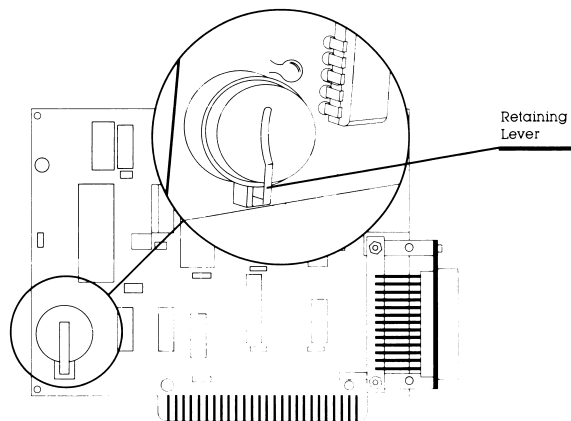

Figure 7-22. Location of the Battery on the Asynchronous Communications/Clock Board.
3. Locate the clock battery on the board as shown in Figure 7-22.
4. Lift the retaining lever and remove the battery (Figure 7-22).